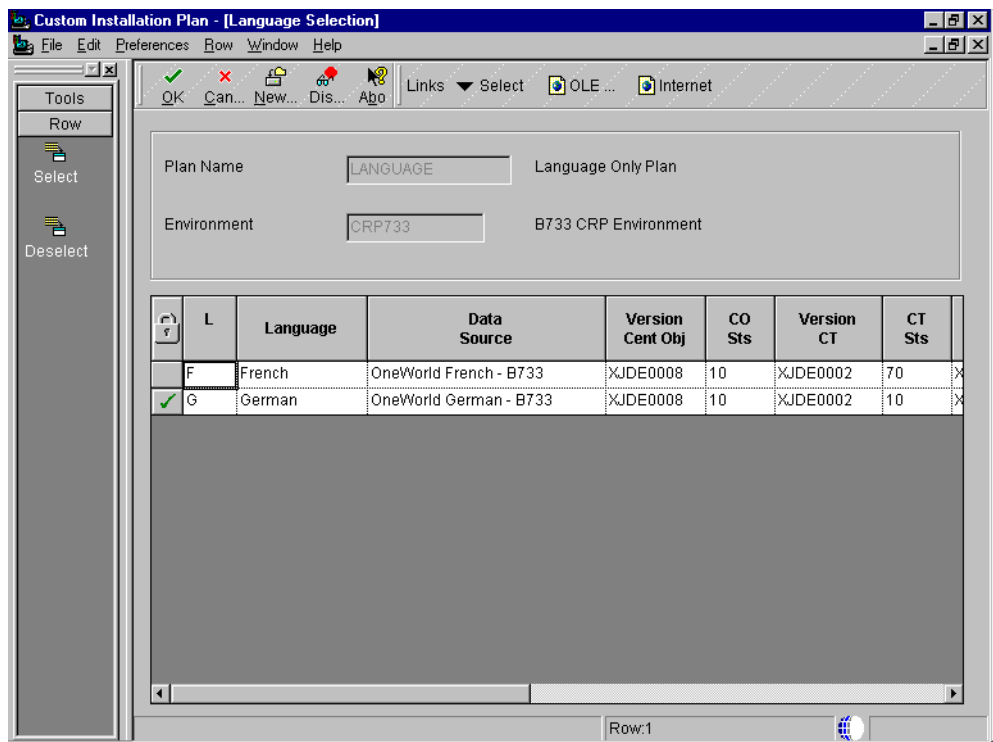

Figure 262. OneWorld Language Selection
4. Installation Planner displays the Language Selection form. Double-click each language to install. A check mark appears in the first column to acknowledge the selection. Your display should look similar to the example in Figure 262.